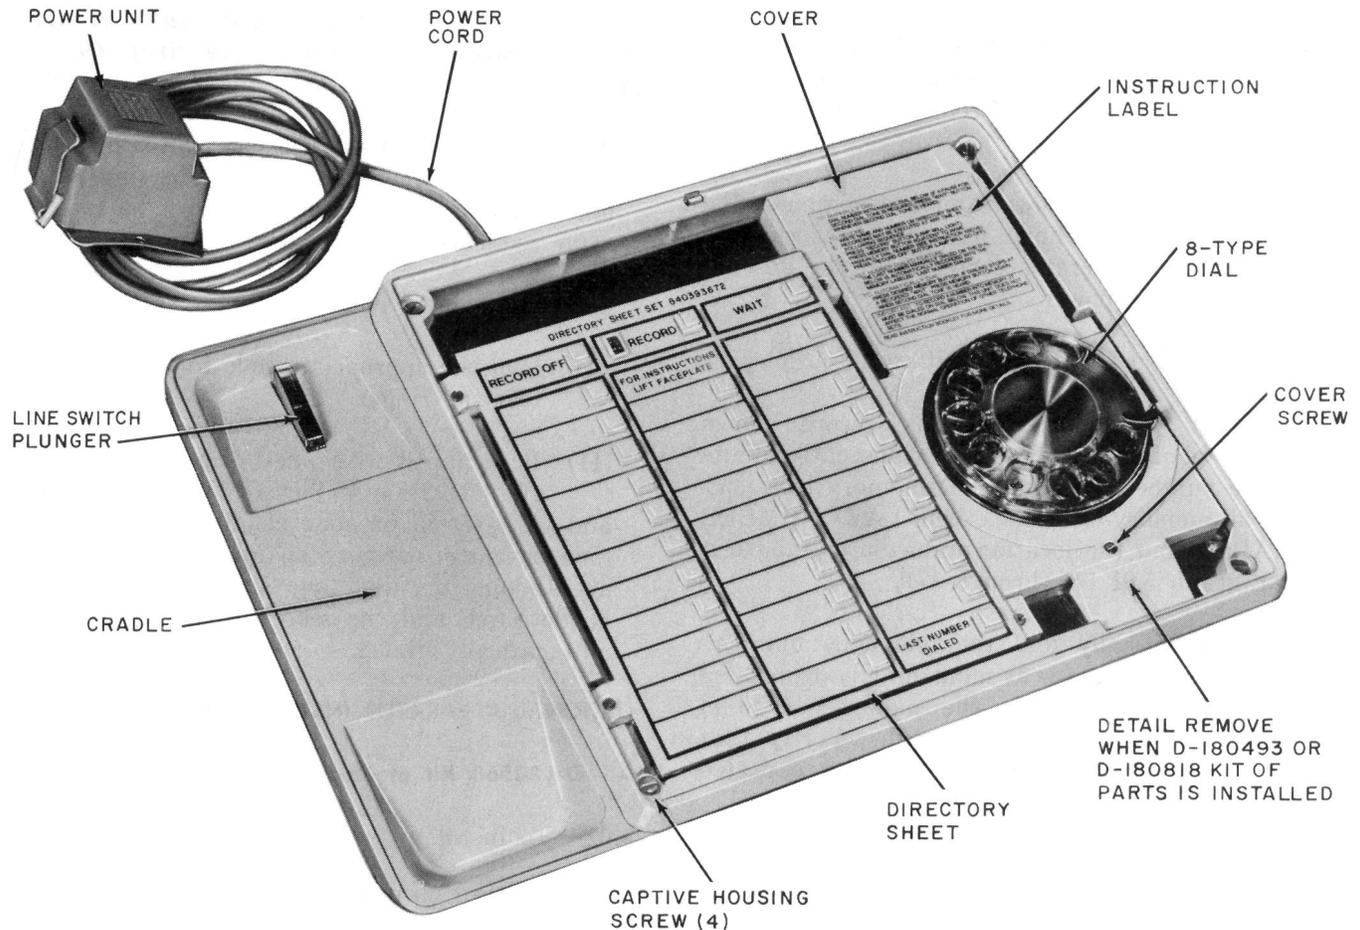

Fig. 2—870A2M Telephone Set—Faceplate and Handset Removed
3.05 The directory sheets (Fig. 2) fit over the buttons of the Memory and are held in place by the faceplate. Additional sheets are available in the directory sheet set, 840393672.
- (5) Make connections per Table C or E.
- (6) Break off the detail at the bottom of the cover (Fig. 2) and trim edge as required.
- (7) Verify correct operation of option.
- (8) Reassemble set.